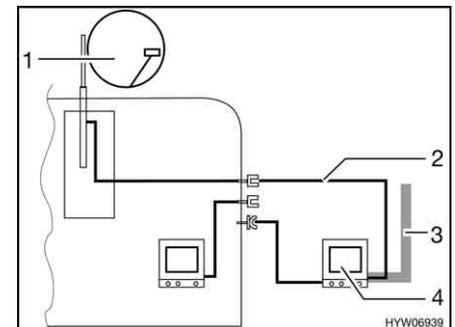

Fig. 171 TV in the awning
- TV inside the awning (Fig. 171,4): Connection to roof antenna (Fig. 171,1) with connection cable (Fig. 171,2)
- TV inside the awning (Fig. 171,4): Connection to external antenna (Fig. 171,3)